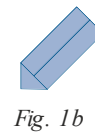

Fig. 1a
1. Dilute 50 ml of 40xTAE stock solution (PIN 3031) to 2 l with dH₂O. (Fig. 1a)